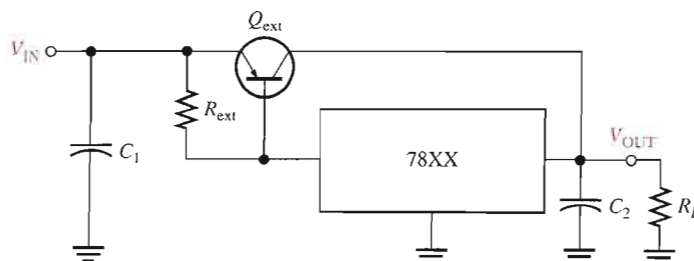

FIGURE 18–32
The LM337 is the negative output counterpart of the LM317 and is a good example of this type of IC regulator. Like the LM317, the LM337 requires two external resistors for output voltage adjustment as shown in Figure 18–30. The output voltage can be adjusted from -1.2 V to -37 V , depending on the external resistor values. The capacitors are for decoupling and do not affect the dc operation.
► **FIGURE 18–30**
The internal circuitry of the 78S40 is shown in Figure 18–31. This circuit can be compared to the basic switching regulators that were covered in Section 18–4. For example,
► **FIGURE 18–31**
look back at Figure 18–16(a). The oscillator and comparator functions are directly comparable. The gate and flip-flop in the 78S40 were not included in the basic circuit of Figure 18–16(a), but they provide additional regulating action. Transistors Q_1 and Q_2 effectively perform the same function as Q_1 in the basic circuit. The 1.25 V reference block in the 78S40 has the same purpose as the zener diode in the basic circuit, and diode D_1 in the 78S40 corresponds to D_1 in the basic circuit.
If an application requires more than the maximum current that the regulator can deliver, an external pass transistor Q_{ext} can be used. Figure 18–32 illustrates a three-terminal regulator
The value of the external current-sensing resistor, R_{ext} , determines the value of current at which Q_{ext} begins to conduct because it sets the base-to-emitter voltage of the transistor. As long as the current is less than the value set by R_{ext} , the transistor Q_{ext} is off, and the regulator operates normally as shown in Figure 18–33(a). This is because the voltage drop across R_{ext} is less than the 0.7 V base-to-emitter voltage required to turn Q_{ext} on. R_{ext} is determined by the following formula, where I_{max} is the highest current that the voltage regulator is to handle internally.
When the current is sufficient to produce at least a 0.7 V drop across R_{ext} , the external pass transistor Q_{ext} turns on and conducts any current in excess of I_{max} , as indicated in Figure 18–33(b). Q_{ext} will conduct more or less, depending on the load requirements. For example, if the total load current is 3 A and I_{max} was selected to be 1 A, the external pass transistor will conduct 2 A, which is the excess over the internal voltage regulator current I_{max} .
What value is R_{ext} if the maximum current to be handled internally by the voltage regulator in Figure 18–32 is set at 700 mA?
This action is illustrated in Figure 18–35. In part (a), the circuit is operating normally with Q_{ext} conducting less than the maximum current that it can handle with Q_{lim} off. Part (b) shows what happens when there is a short across the load. The current through Q_{ext} suddenly increases and causes the voltage drop across R_{lim} to increase, which turns Q_{lim} on. The current is now diverted through the regulator, which causes it to shut down due to thermal overload.
► **FIGURE 18–35**
The three-terminal regulator can be used as a current source when an application requires that a constant current be supplied to a variable load. The basic circuit is shown in Figure 18–36 where R_1 is the current-setting resistor. The regulator provides a fixed constant volt-
► **FIGURE 18–36**